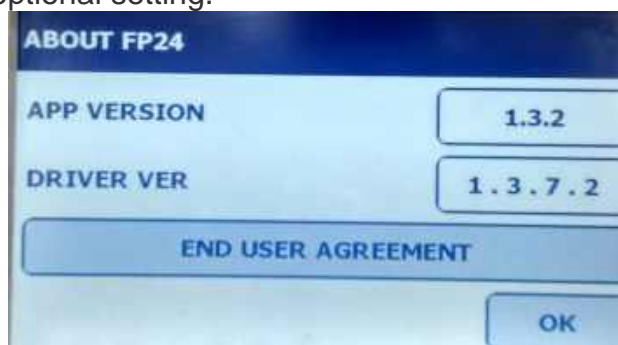

Figure V-34: About FastPrep-24 5G
11. Verify a successful upgrade installation using the [ABOUT FP24] button found under [ADMIN TOOLS]. The 'App Version' and 'Driver Version' will correspond to the new upgrade(Figure V-34).